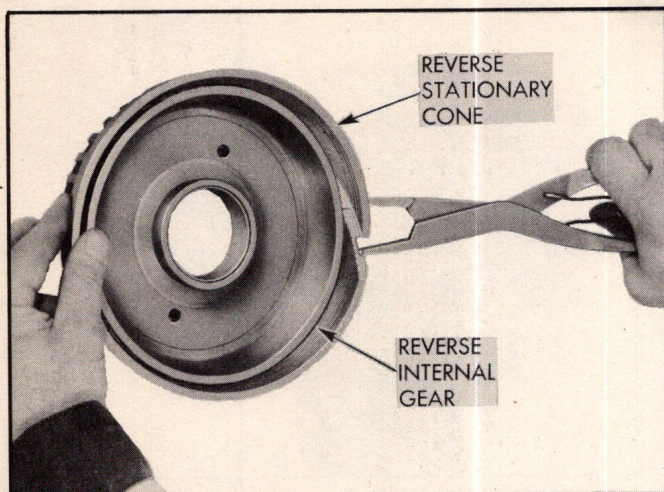

Fig. 261—Installing Reverse Stationary Cone
8. Install reverse stationary cone on reverse internal gear with keyway toward external teeth on internal gear. (Use snap ring pliers to spread stationary cone for installation.) (Fig. 261).
CAUTION: Do not spread cone more than necessary to make the installation. To avoid excessive expansion, tilt stationary cone and slide side opposite keyway onto reverse internal gear first as shown in Fig. 261.